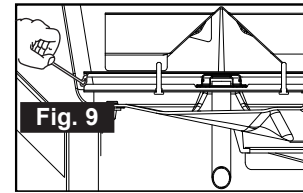

Fig. 9
2. Place an ignited lighter or lit match through the lighting hole. (See Figure 9)